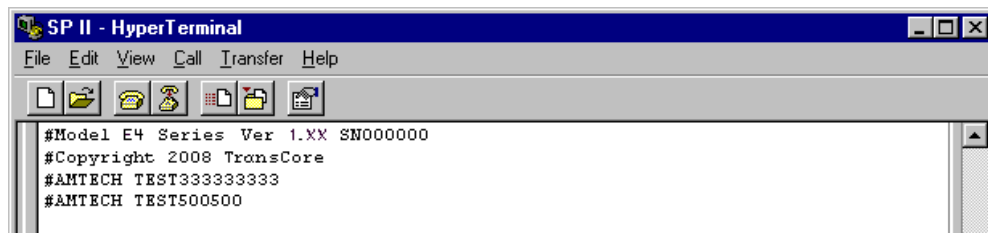

Figure 8–8 Second Successful Tag Read
4. When the MPRX reads the second tag successfully, the terminal emulation application displays that tag’s information in the main screen below the information for the first tag, as shown in Figure 8–8.